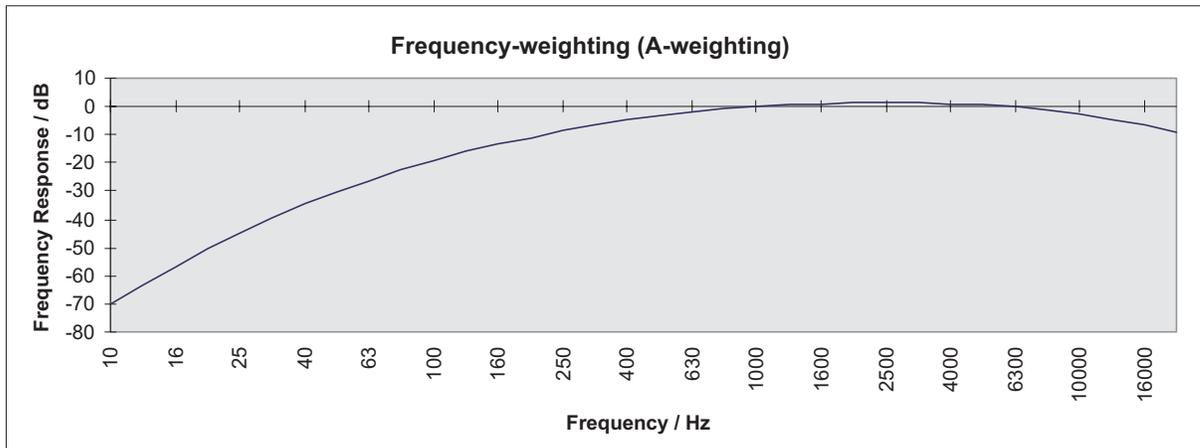

Figure 7.9: Frequency-weighting curve for the display type Magnitude[dB(A)]
- ☞ In the display type Magnitude[dB(A)], the magnitude measured is frequency-weighted according to the standard EN 60651 (IEC 651) (A-weighting). The A-weighting approximately describes the acoustic sensitivity of a human at low magnitudes. The frequency-weighting curve is shown in figure 7.9. Outside the range shown, the software frequency-weights as follows: Below 10.0Hz at -70.4dB and above 20,000Hz at -9.3dB.